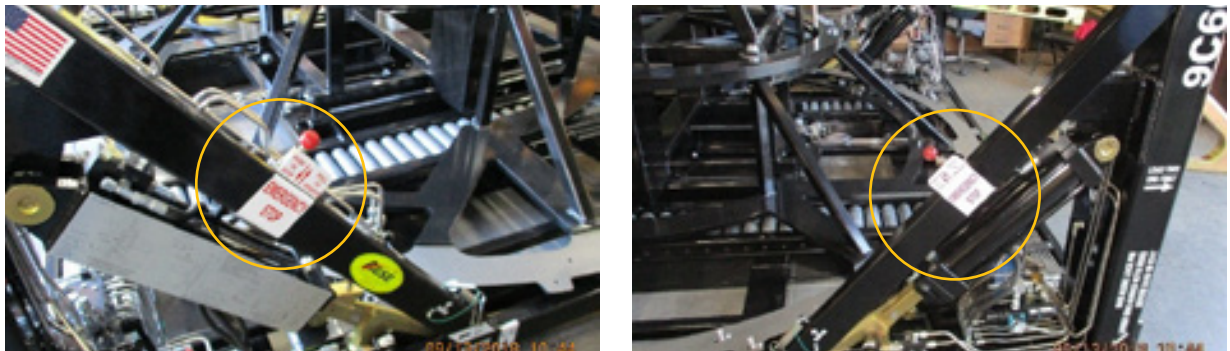

Figure 5.5 - Emergency Stop Valves Located on Both Sides of Equipment
1. Two red button-operated valves ("EMERGENCY STOP") are located on either side of the stand to facilitate an emergency stop (Figure 5.5)
- 5.3-4 Ensure both Emergency STOPS are pulled out to enable equipment operation (see Figure 5.5).